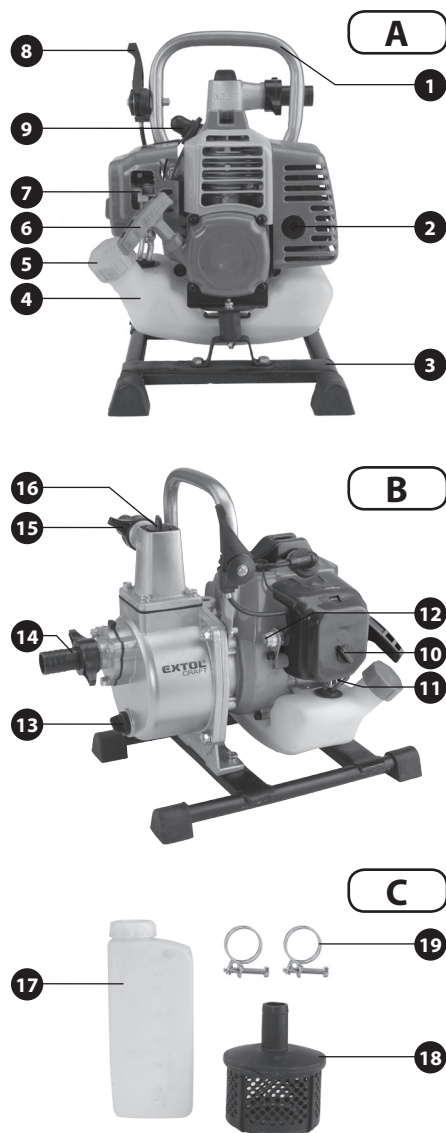

Fig. 1
- Always insert an inlet strainer onto the entry into the suction hose (fig. 1 C, position 18). The inlet strainer prevents sucking larger mechanical particles and objects into the hose and thereby prevents the hose